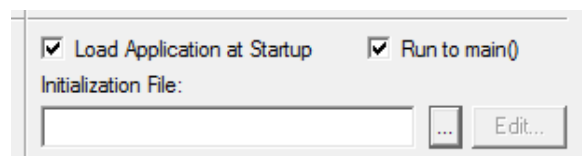

Figure 28. Load Application at Startup Settings
10. From the **Options for Target 'Demo'** dialog, select the **Load Application at Startup** checkbox, as shown in Figure 28, the so that the IDE will download the code upon connection. There is no need to select or enter an initialization file.